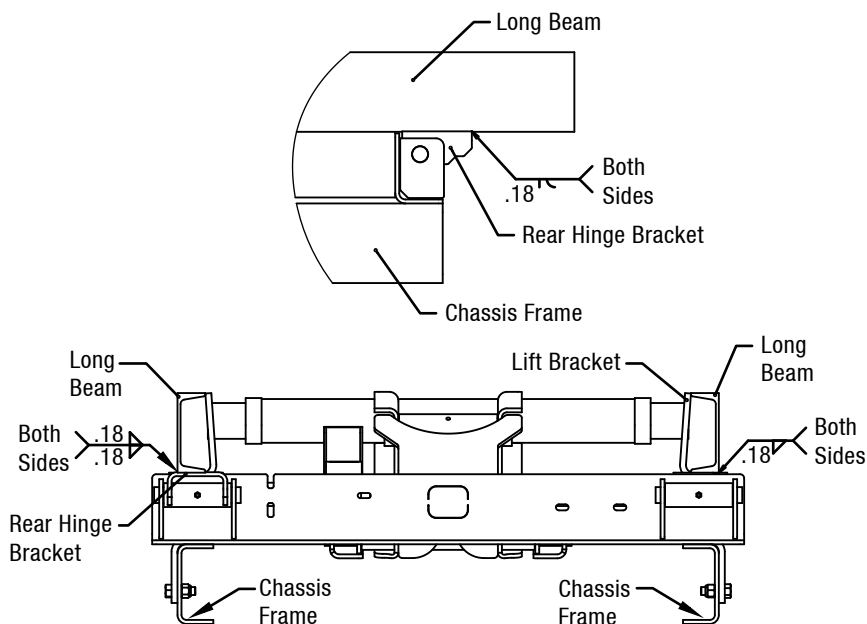

Figure 11: Body to Sub-frame Installation
9. Position the rear hinge brackets against the bottom side of the long beams. Once in position, weld the rear hinge brackets to the body long beams as shown in Figure 11.
10. Slide each lift bracket against the inside of the long beam channel. Then weld the lift bracket to the outside of the long beam (Figure 11).